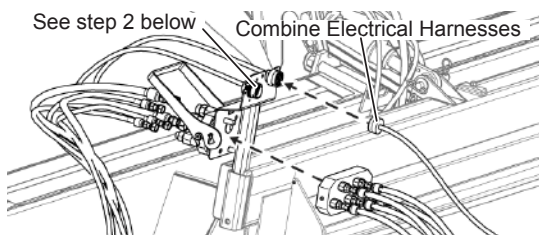

Fig. 48 - Connect Multicoupler & Electrical Harness
2. If the hydraulic tilt option was purchased, connect the hydraulic tilt switch box harness to the connector on the multicoupler (see Fig. 48 above). Route the switch box cable into the combine cab, taking care to keep the cable away from hot or moving parts. Secure the switch box in the cab with the provided suction cup.
If the manual tilt cylinder option was purchased, install the jumper on the connector on the multicoupler (see Fig. 48 above).